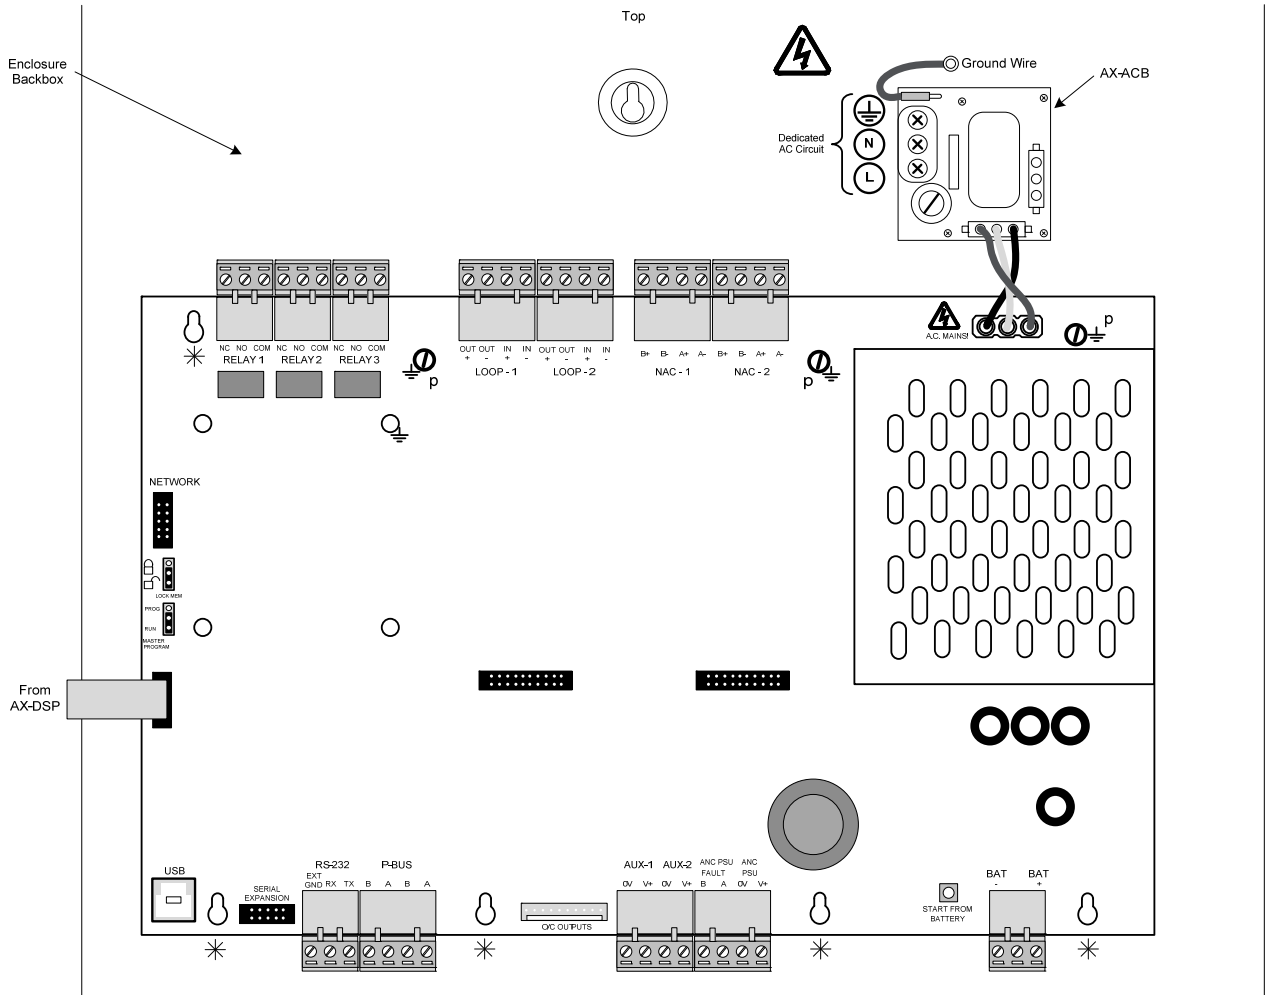

Figure 5 - AX-CTL (AX-CTL-1PCB / AX-CTL-2PCB) Base Card
- * The AX-CTL base card is hung on five top-hat (screw-less) standoffs [*] and secured with three (3) screws [p] (see figure 5). It is critical when replacing the base card that these screws are tightly secured as they are required for proper earth ground connection.